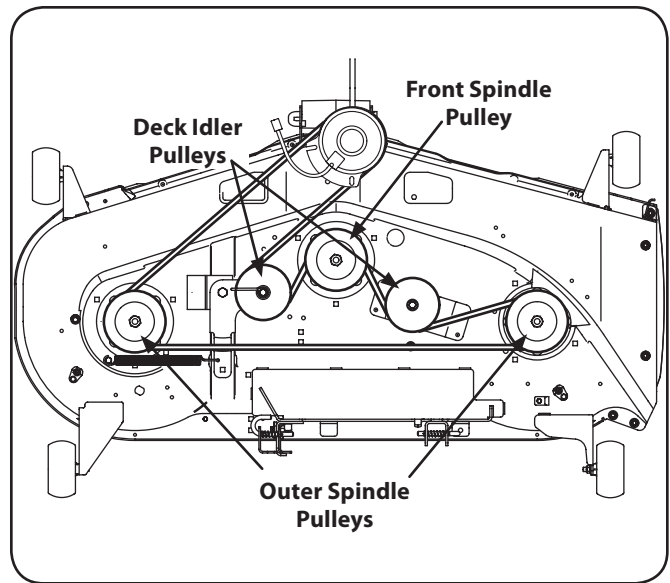

Figure 7-11
5. Install the new belt by routing the belt around the two outer spindle pulleys, then around the front spindle pulley as shown in Figure 7-11.
6. Then route the belt around the two deck idler pulleys as shown in Figure 7-11.